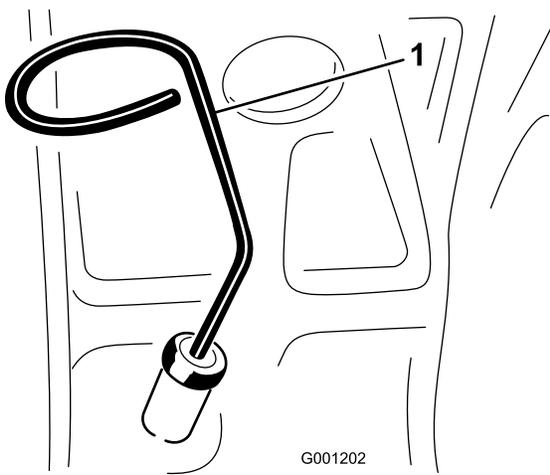

Figure 22
2. Remove the dipstick (Figure 22), wipe it clean and reinstall the dipstick. Remove the dipstick and check the oil level. The oil level should be up to the Full mark on the dipstick.